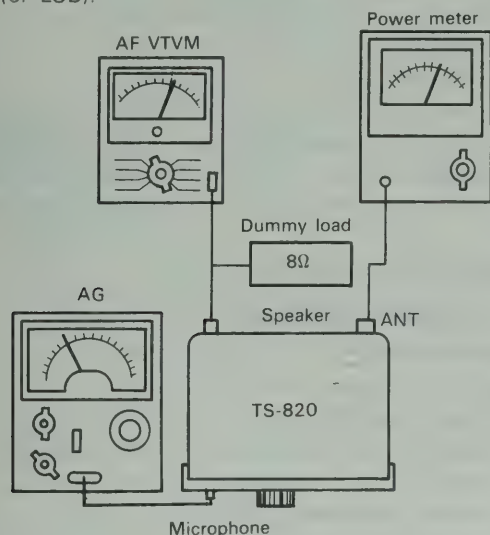

Fig. 38 Adjustment of monitor level
- 1) If Fig. 38, make adjustment until full power is obtained at 14.175 MHz, CW, and set the MODE switch to SSBc (or LSB).